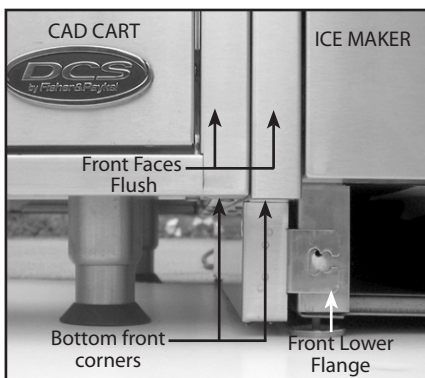

Fig. 16
- a. The Icemaker leveling legs can be adjusted to match the cart assembly or your counter top. Check the level on both units. The bottom front corners will match and the front faces will be flush (Fig. 16).